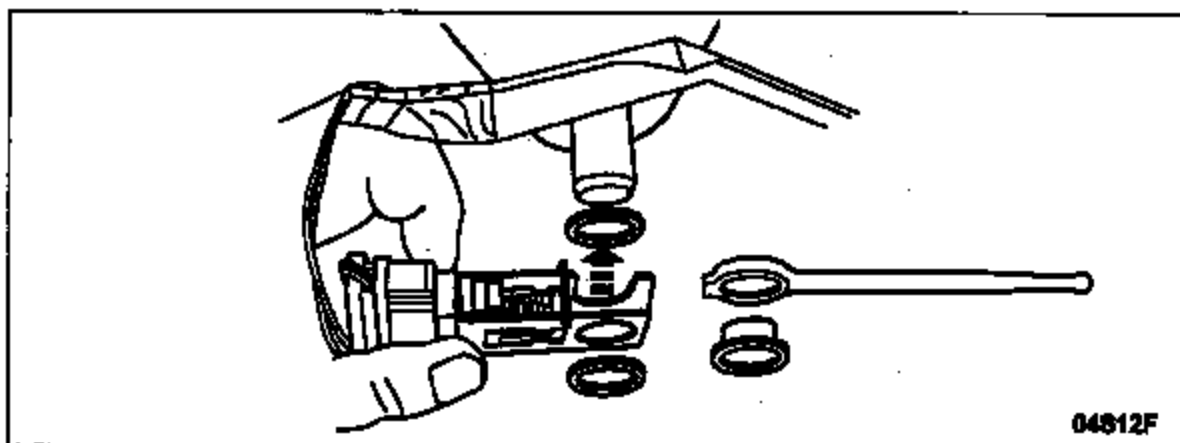

FIGURE 6
11. Install the new stop lamp switch as follows (See Figure 6):